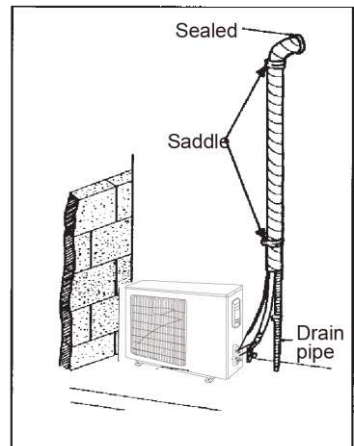

Fig. 4.14
- (1). If the outdoor unit is installed lower than the indoor unit (See Fig. 4.14)